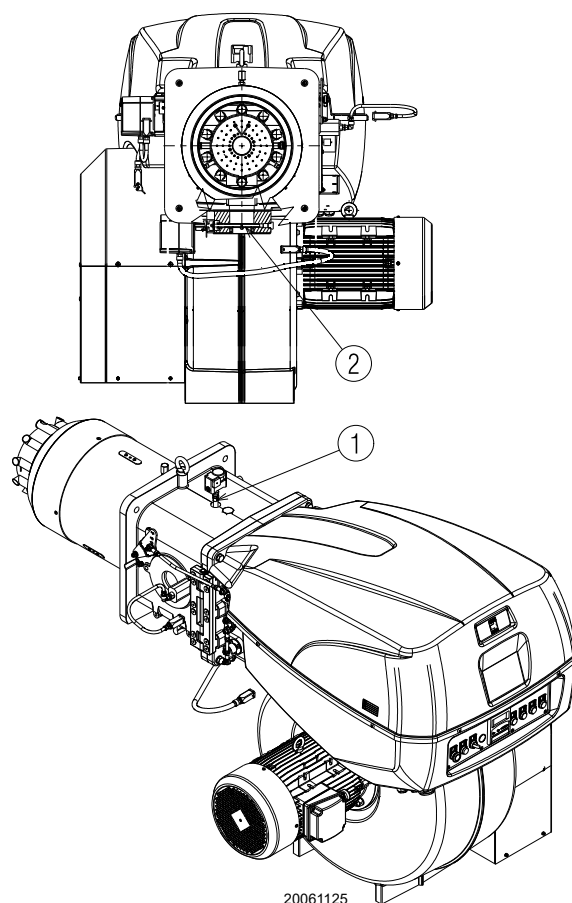

Fig. 22
Gas pressure measured at the test point 1) (Fig. 22), with:
Pressure loss at gas butterfly valve 2)(Fig. 22) with maximum opening: 90°.
- subtract the combustion chamber pressure from the gas pressure measured at test point 1)(Fig. 22).
Gas pressure at test point 1) (Fig. 22) = 59.2 mbar
To calculate the required gas pressure at test point 1) (Fig. 22), set the maximum modulating output required from the burner operation:
- read, on the right (column 1), the pressure at the test point 1) (Fig. 22).
Pressure required at test point 1)(Fig. 22).